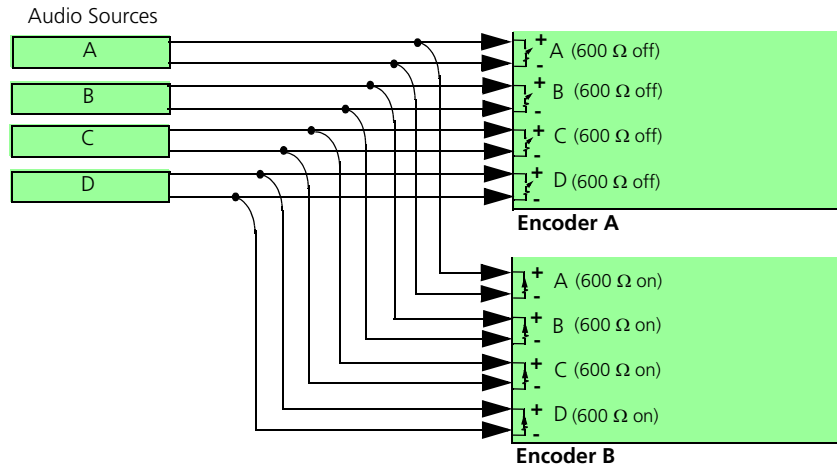

Figure 5-7. Audio In Connections
3. Connect audio inputs A ... D to the two encoders using plug connectors, as shown in Figure 5-7. These connections will enable encoder B to transmit an identical copy of the audio transmitted by encoder A.